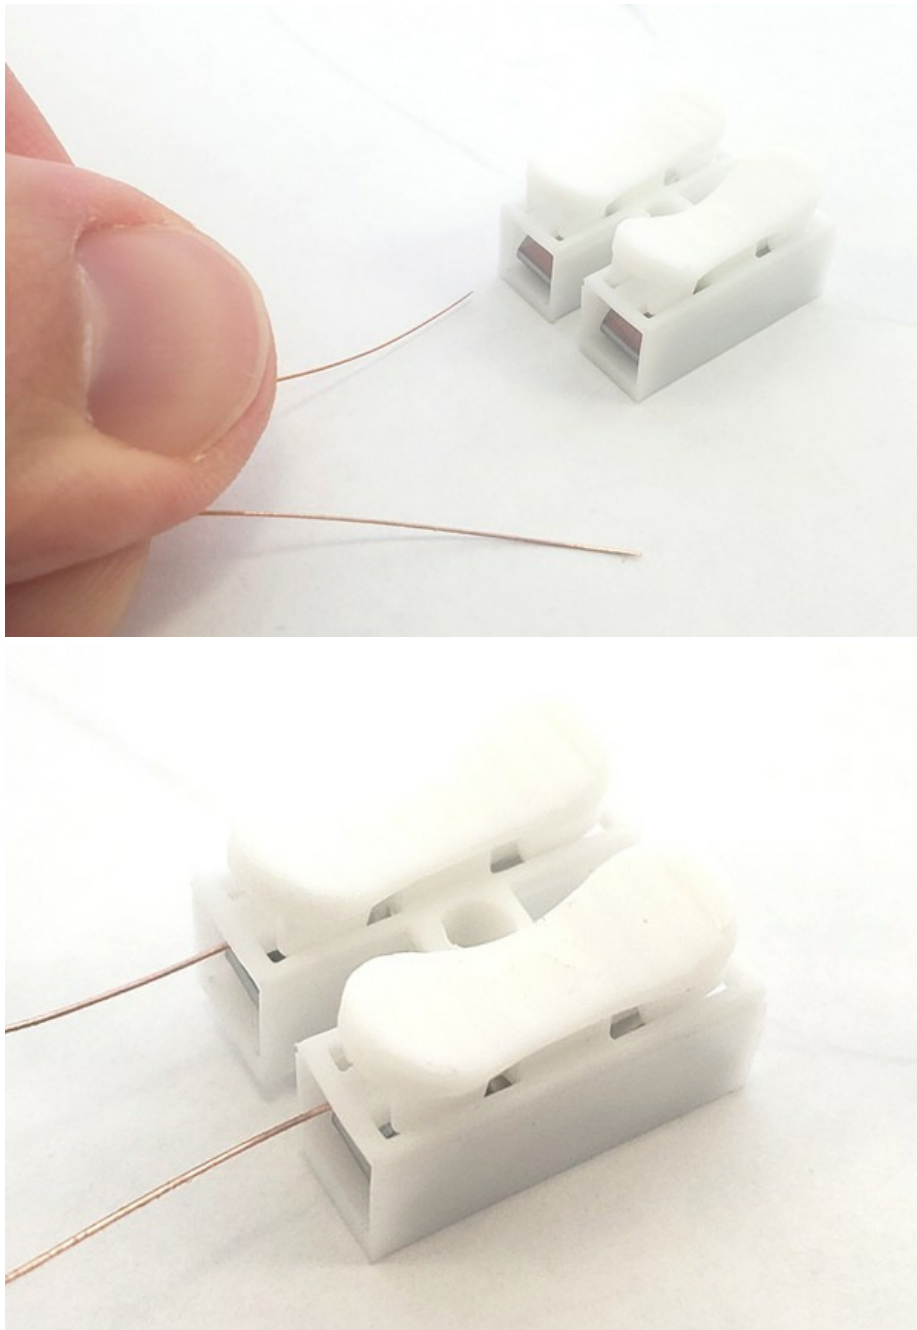

Figure 18. Top: wires before inserting into spring clips. Bottom: wires after inserting into spring clips.
17) One at a time, press down on a spring clip and insert one end of the magnet wire into the clip. Repeat for the other wire so they are next to each other (Figure 18).